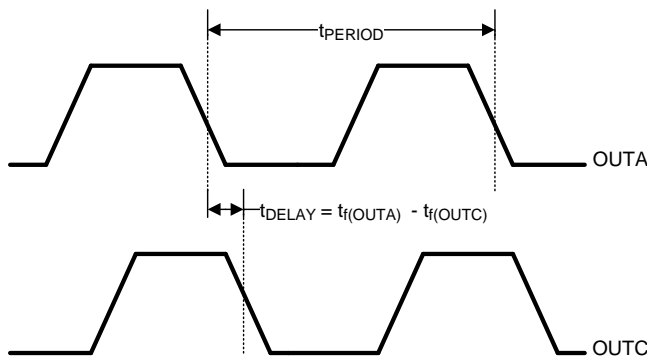

Figure 1. Same Applies to OUTB and OUTD
(2) Ensured by design. Not production tested.
(3) Output delay is measured between OUTA and OUTB, or OUTC and OUTD. Output delay is defined as shown below where: $t_{f(OUTA)}$ = falling edge of OUTA signal, $t_{r(OUTB)}$ = rising edge of OUTB signal (see Figure 1 and Figure 2).
(6) Output delay is measured between OUTA and OUTB, or OUTC and OUTD. Output delay is defined as shown below where: $t_{f(OUTA)}$ = falling edge of OUTA signal, $t_{r(OUTB)}$ = rising edge of OUTB signal (see Figure 1 and Figure 2).